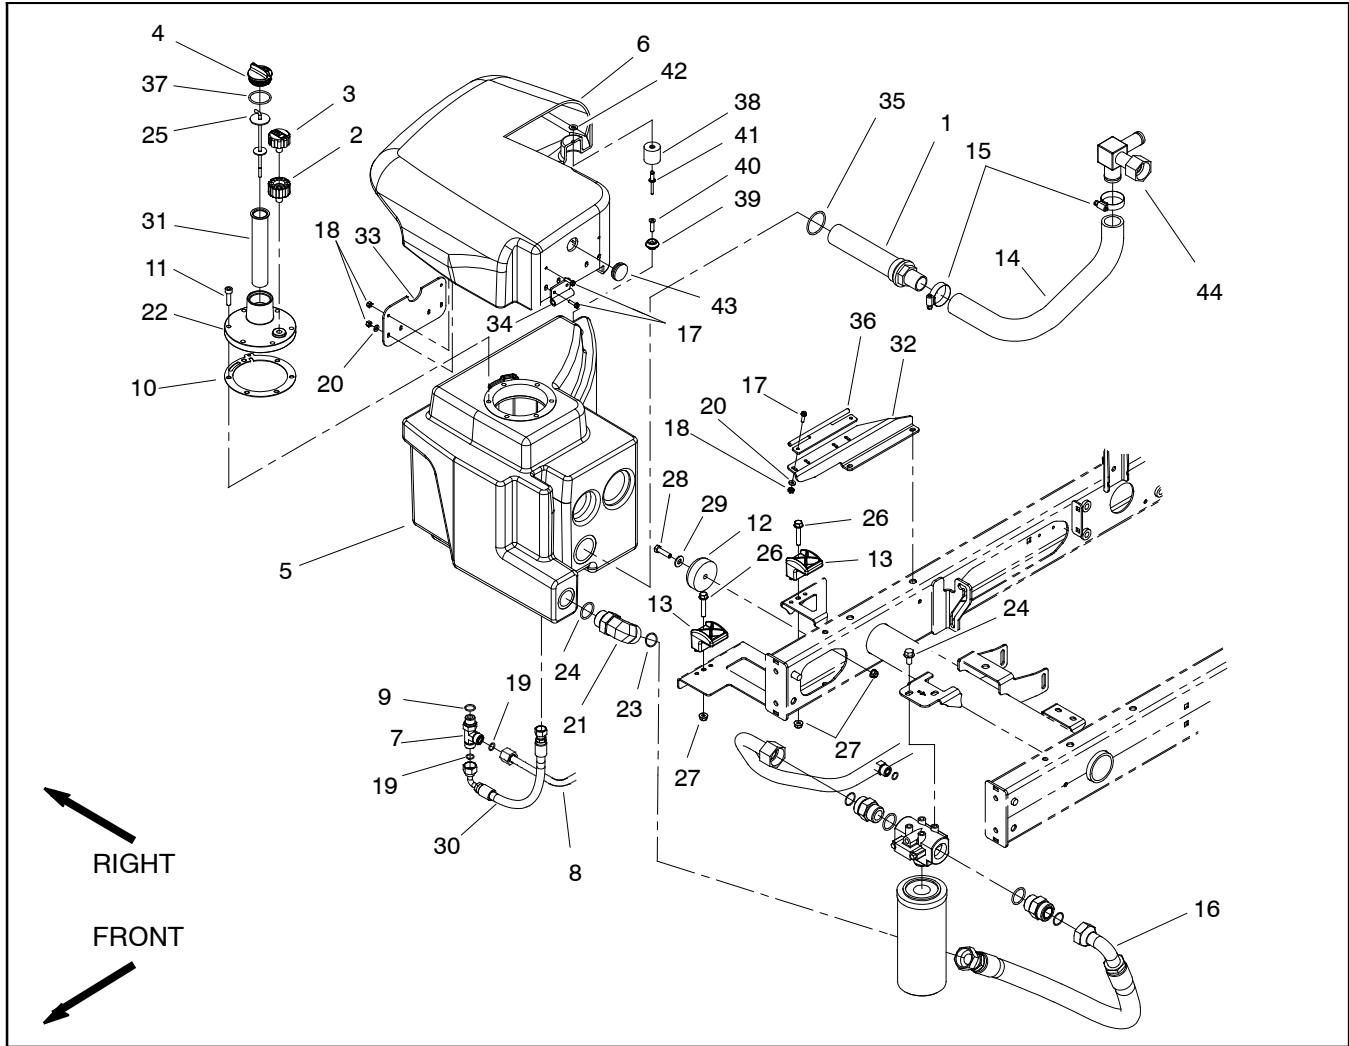

Figure 57
### Removal (Fig. 57)
5. Remove hydraulic reservoir using Figure 57 as a guide.
### Inspection (Fig. 57)
### Installation (Fig. 57)